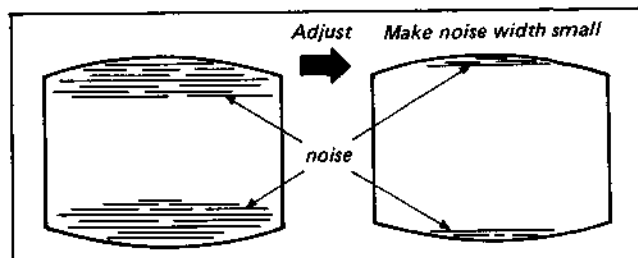

Fig. 4-3-10. Triple speed noise position adjustment
- (1) Record an optional signal.
- (2) Set the TRACKING knob to the center detent position.
- (3) Play back the recorded segment in the TRIPLE speed.
- (4) Adjust RV5 so that the noise disappears from the monitor TV screen. (See Fig. 4-3-10.)